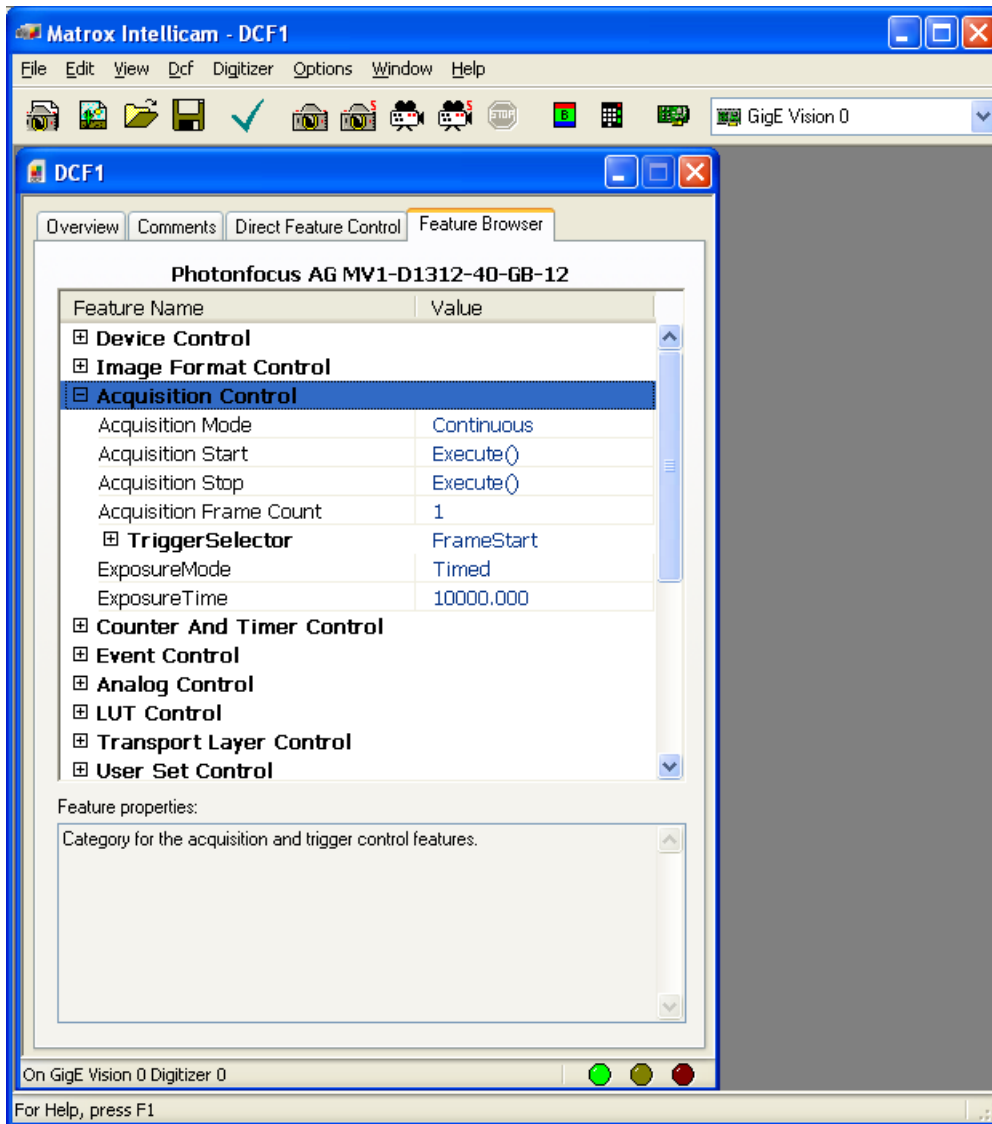

Figure 5.6: Intellicam Feature Browser
4. To modify camera parameters click on the Feature Browser tab (see Fig. 5.6). To modify the exposure time for example, expand the Acquisition Control category and modify the value ExposureTime value by entering a numerical value or by moving the slider. Time values are normally specified in μs . Categories can be expanded or collapsed by double-clicking on the (+) or (-) sign. To grab a live image click on one of the camera icons in the tool bar. Size of the image window is determined by the Width and Height (category Image Format Control) settings. After modifying the window size it is recommended to close the image window and open it again to adjust it to the Width and Height settings.